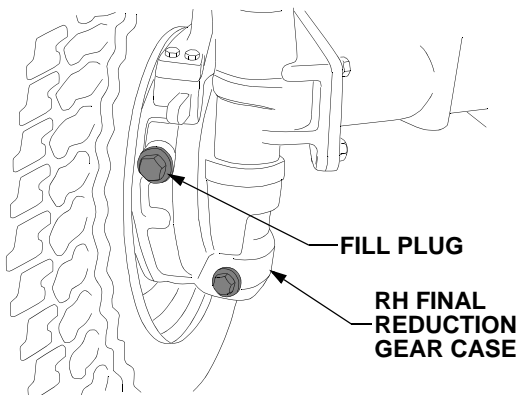

Figure 47
- Locate the fill plugs approximately midway up on the front of the *right* and *left* gear cases. See Figure 47.